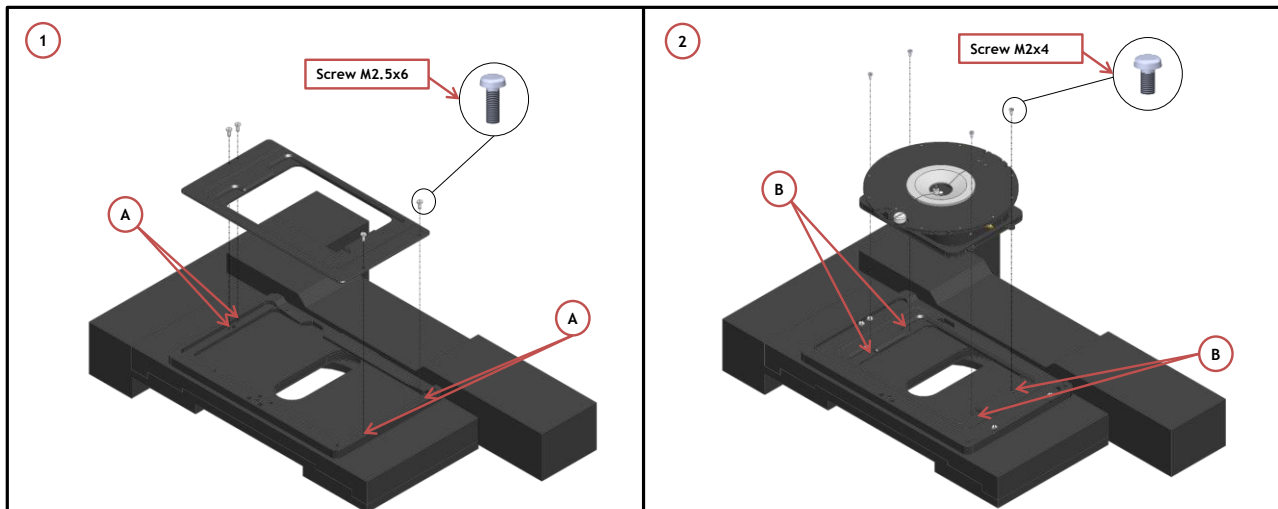

Figure 14. How to fix the H301-UP on the stage
H201-UP fits on the stage. To fix the chamber on the stage, follow the steps shown in Figure 14
1. Place the holder on the stage and fix it by the four pan head screws M2.5x6 (the screws type depends on the working stage). The place of the pan screws is indicated by letter A. (See Figure 14 Image 1).
2. Place the chamber on the stage and fix it by the four pan head screws M2x4 (the screws type depends on the working stage). The place pan screw is indicated by letter B. (See Figure 14 Image 2).